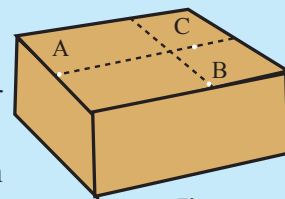

Figure 4.9
- Fix tintex nails to the points A, B and C of the upper surface of the wooden block as shown in figure 4.9.